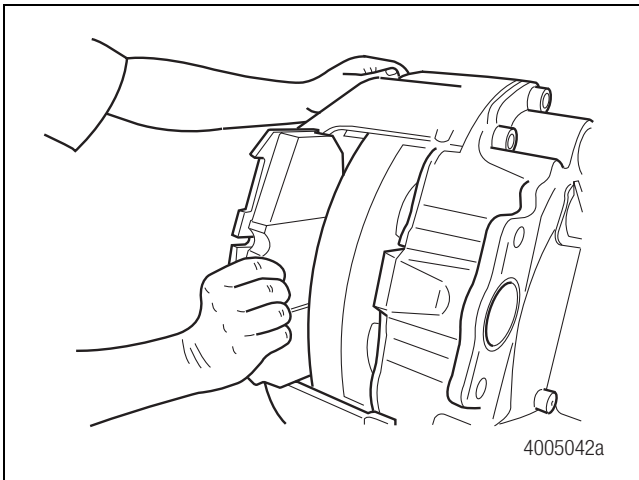

Figure 4.16
2. Slide the caliper OUTWARD. Install the outboard pad and spring into the outboard side of the caliper. Figure 4.16.
- Slide the caliper INWARD. Install the inboard pad and spring into the inboard side of the caliper. Figure 4.16.